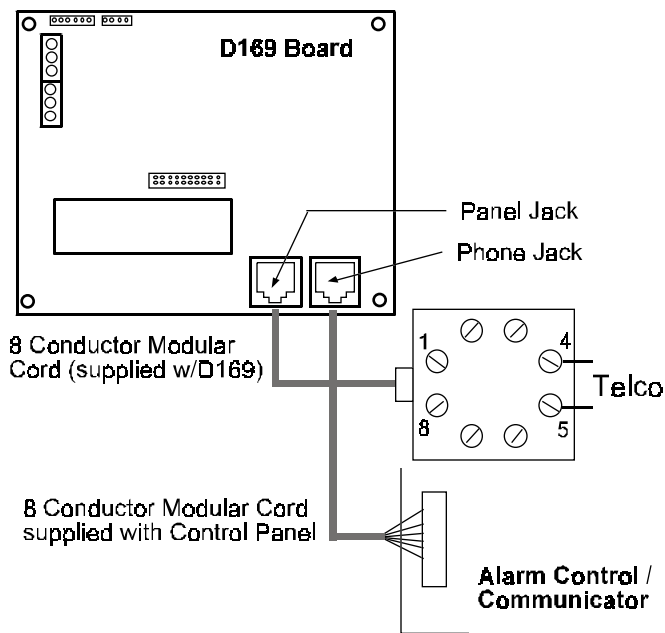

Figure 7: Telco cord
2. Wire the RJ-31X jack as shown in Figure 7 on the following page.